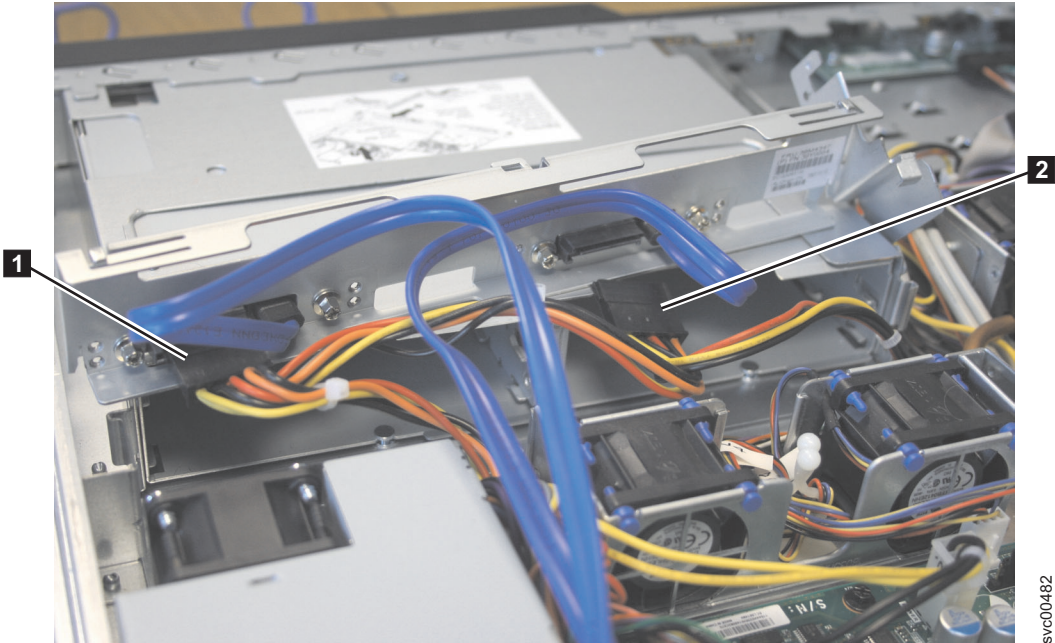

Figure 275. SAN Volume Controller 2145-8A4 power supply connectors
9. Remove power connectors P1 **1** and P6 **2**, as shown in Figure 275.